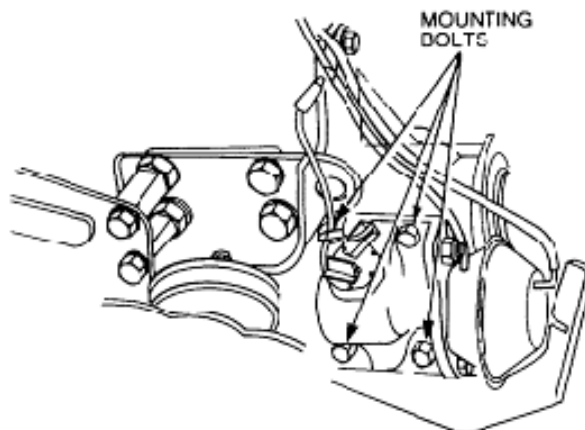

Figure 67 Vacuum Chamber Selector Housing Removal
- e.** Remove the four bolts securing the vacuum chamber selector housing to the transmission (Figure 67).